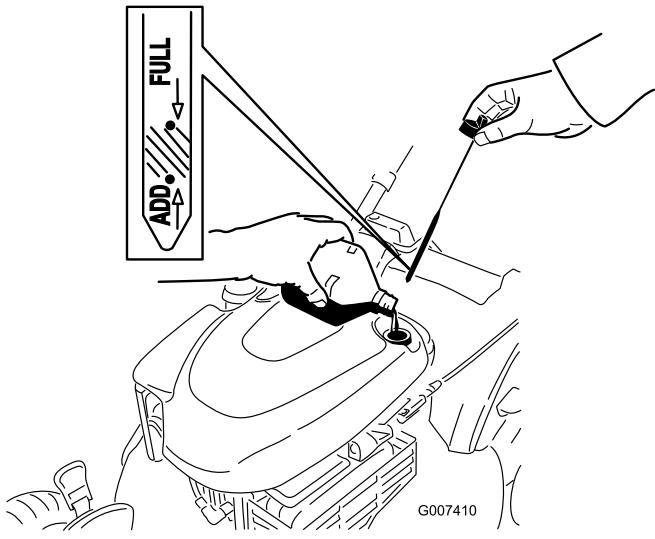

Figure 15
1. Remove the dipstick, wipe it clean, and fully install the dipstick (Figure 15).